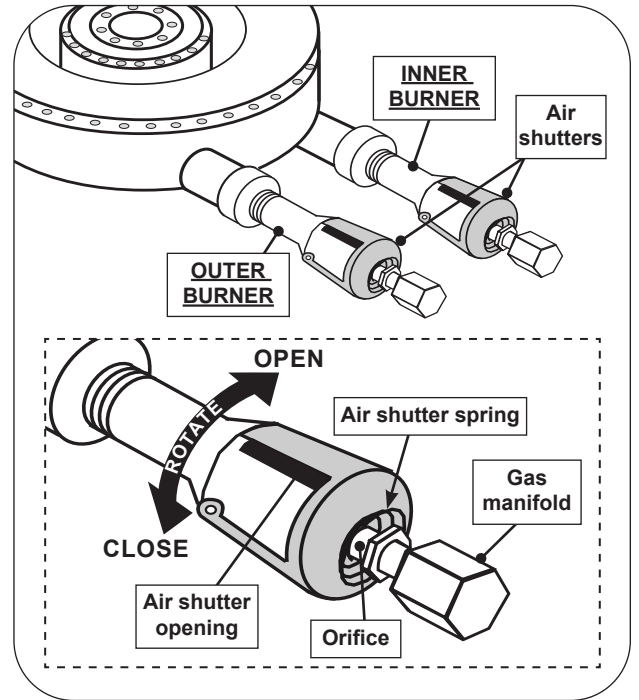

Fig. 36-1 Power burner air shutter adjustment detail
1. To adjust the air shutters, rotate the shutters to open or close them. See Fig. 36-1 for details.